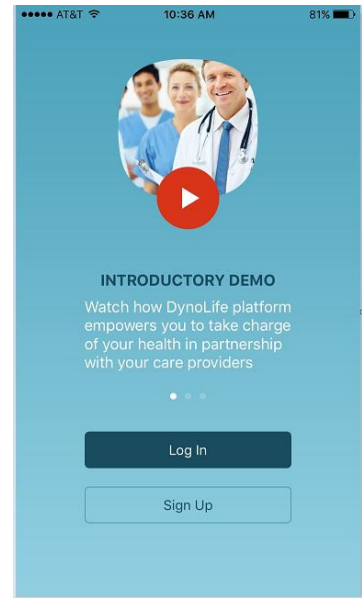

Figure-3
- c. When DynoSense" app appears on the screen, select "Get" (Figure-3) to download the App.
- d. When the download is successfully complete, "DynoSense" App will be added to the iPhone, and instruction video opens (Figure-3).
- a. Tap on the red play button  (Figure-3) to watch a 30-45 seconds video covering the following topics: